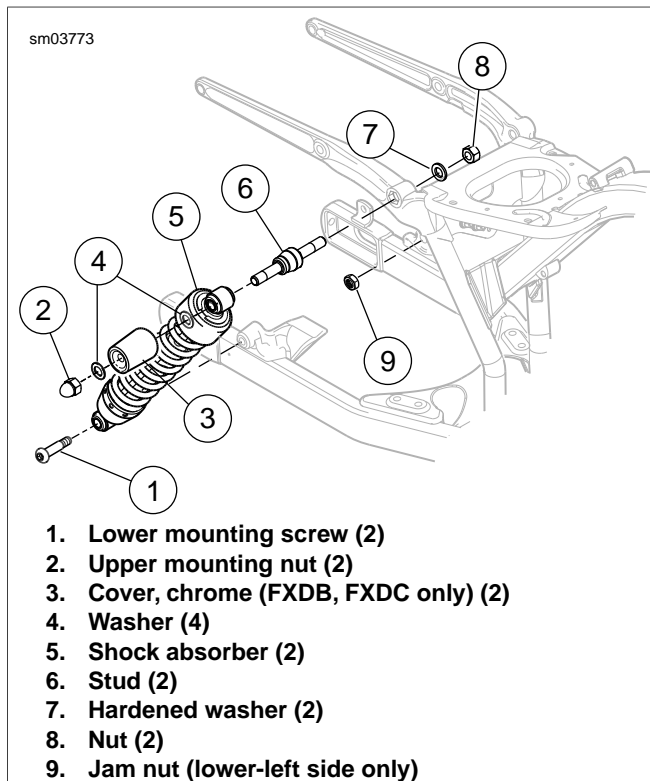

Figure 2-97. Rear Shock Absorber Mounting (Typical)
2. See Figure 2-97. Remove lower shock mount screw (1). Nut (9) is only used on left side.
3. Remove upper shock mount nut (2), outer washer (4), chrome cover (3), inner washer (4), and shock absorber (5).
5. If stud (6) is to be removed, remove nut (8) and washer (7).
1. See Figure 2-97. If removed, install stud (6), hardened washer (7) and nut (8). Tighten to 70-85 ft-lbs (101.7-115.2 Nm).
- a. Apply two to three drops of LOCTITE THREAD-LOCKER 243 (blue) to threads of bottom bolt (1).
4. Apply two to three drops of LOCTITE THREADLOCKER 243 (blue) to threads of shock mount nut (2).
- a. Install inside washer (4), shock (5), cover (3), (if applicable,) outside washer (4) and upper shock mount nut (2).
- b. Hand tighten nut (2).